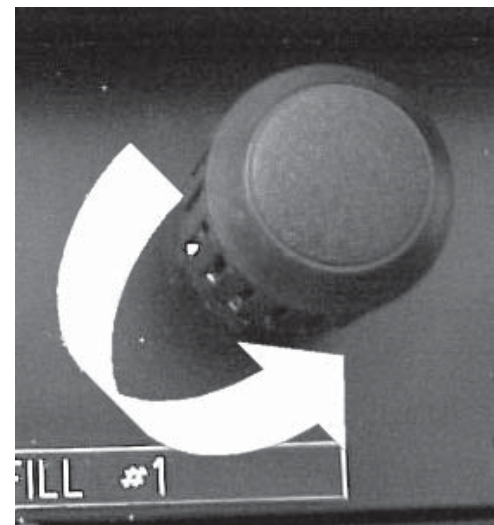

figure 6
5.8. Slowly open the panel mounted valve (YVA3010A), counterclockwise, that corresponds to the fill hose(s) used (figure 6). There is no need to open any valve on the SEA.